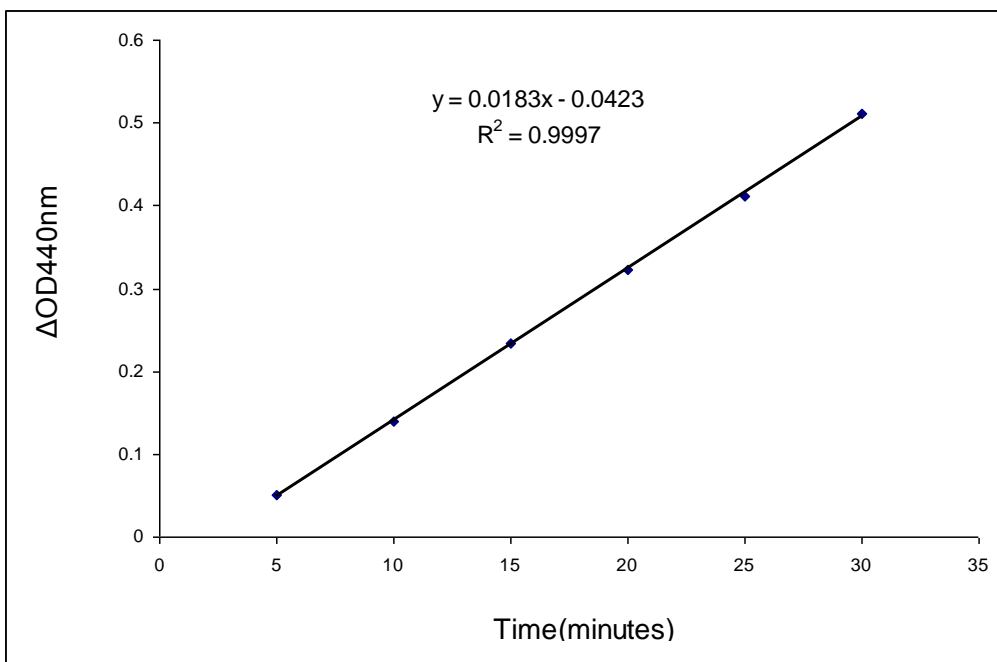

Figure 2. The change in absorbance ΔOD_{440nm} of diluted PDH positive control during the time at 440nm.
1. Determine the change in absorbance $\Delta OD_{440nm}/min$ by plotting the absorbance value at ΔOD_{440nm} as a function of reaction time to obtain the slope of the linear portion of the curve, as shown in Figure 2.